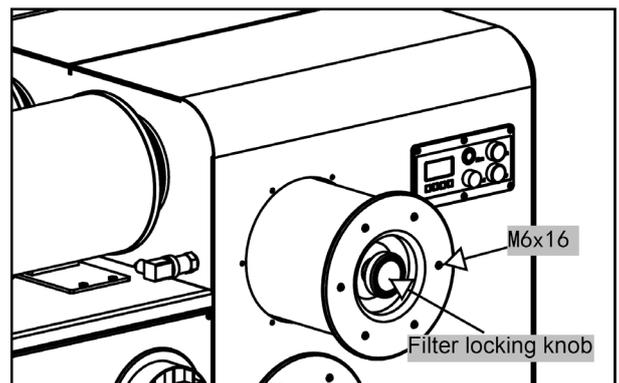

Fig. 16
6.3 Cleaning or Changing the Filters (Fig. 16)
2. As shown in Fig. 16, turn the locking knob and pull out the filter. Use compressed air to clean the dust on the outside of the filter.
As shown in Fig. 16, turn the filter locking knob and pull out the filter.
As shown in Fig. 16, mount the new filter, screw the 6- M6x16 screws back into place and turn and firmly lock the knob.